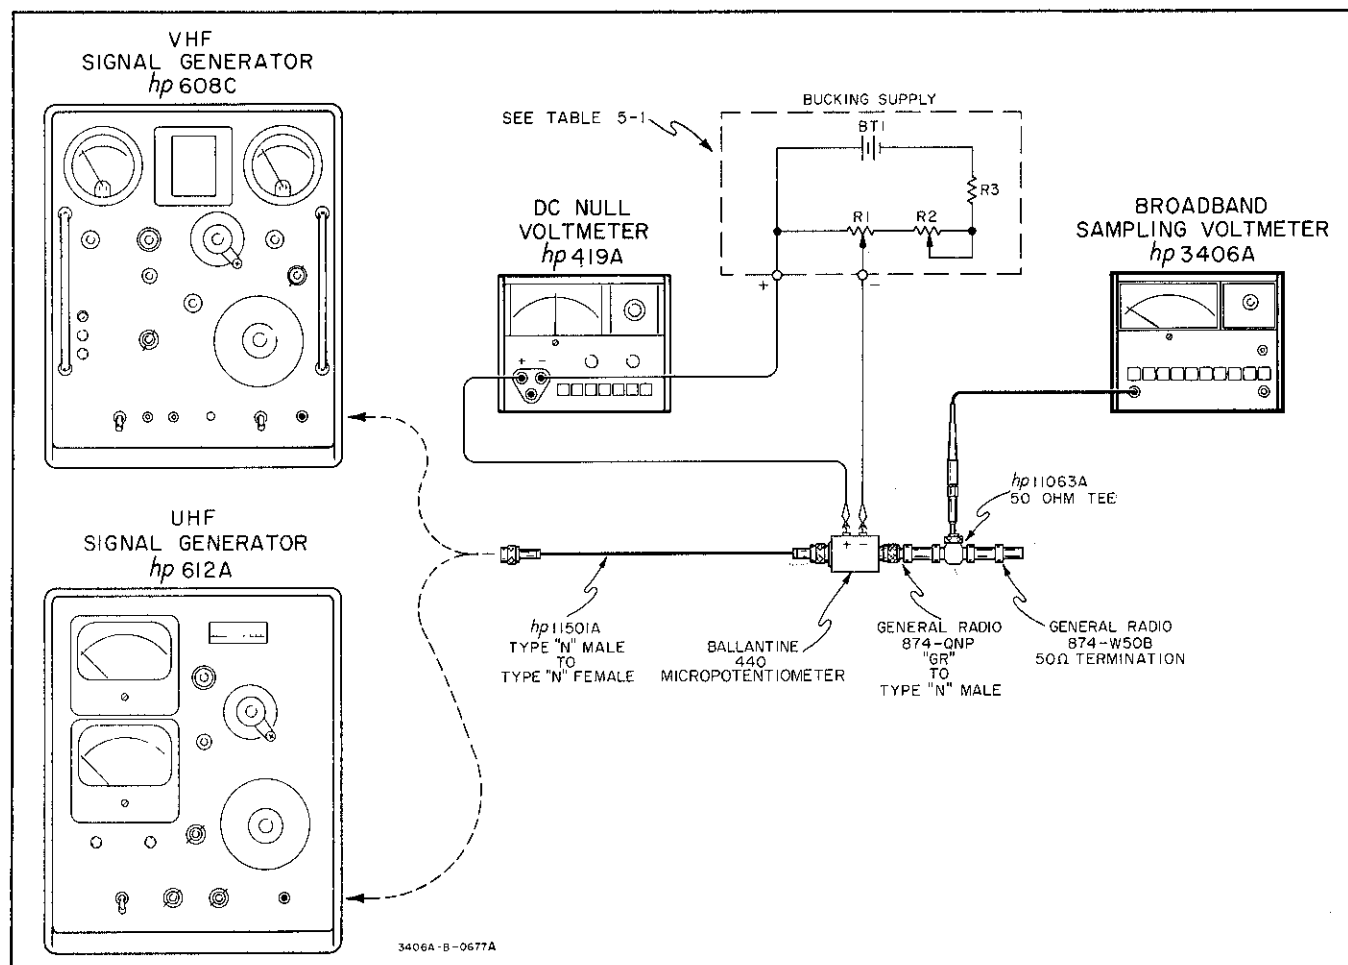

Figure 5-2. 10 MHz to 500 MHz Frequency Response Test Setup
5-10. The 10 MHz to 500 MHz frequency response test setup is illustrated in Figure 5-2. The following equipment is required for this check:
- a. Connect Model 3406A as illustrated in Figure 5-2.